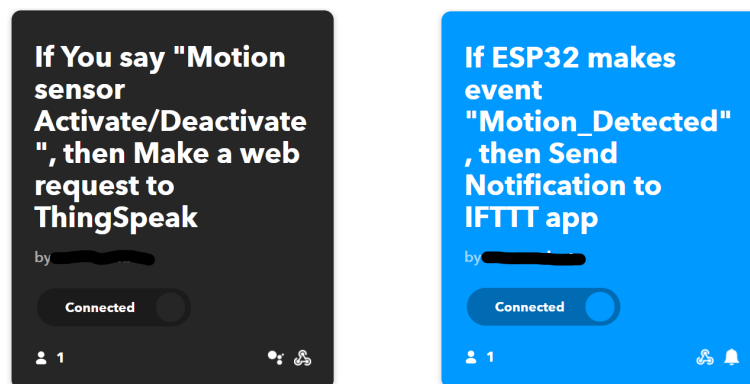
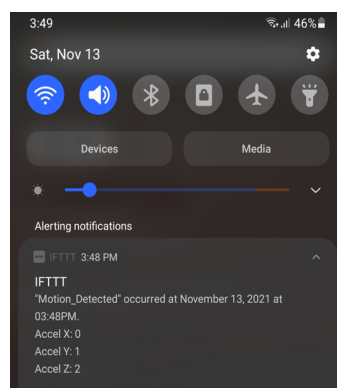

Fig 3. Example of (a) IFTTT Applet 1 (b) IFTTT Applet 2. Once you build the applets, they appear under ‘My Applets’ on the IFTTT website.
Fig 4. Notification received on IFTTT app on the phone
The purpose of the 2nd applet is to receive a web request from your ESP32 if any motion is detected and send a notification to your phone. In this case, you should use ‘Webhooks’ as the *trigger* and Notifications as the *action*. Whenever any motion is detected, the ESP32 should make a web request to Webhooks and pass on the accelerometer sensor values (X, Y, Z axis), which in turn should send a notification to the IFTTT app on your phone. Fig. 3 shows examples of these two applets. Fig. 4 shows an example notification received on the phone. **Note that the accelerometer data for all 3 axes are shown in the notification.**
3. Move the sensor board assembly. ESP32 should now trigger IFTTT applet 2 and send Notification to your phone (IFTTT app) like Fig. 4.